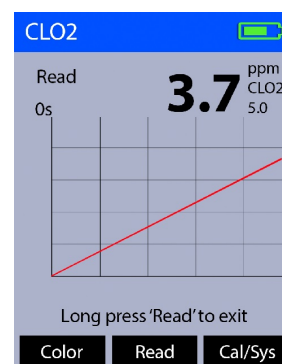

Figure 7.
7. The SP-200 will continuously display the concentration as the timer counts down. Record the final value after timer stops (Figure 7).